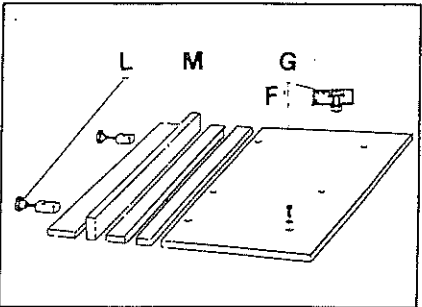

Fig. 5
Note: The worktable comprises 5 elements (Fig. 5): a large fixed portion (F) which attaches to the front of the base frame, a wooden fence (M) against which the material being worked is held and three movable strips of table which are used to adjust the position of the fence relative to the saw blade to ensure the different types/depth of cut can be carried out with safety.
- (i) Secure the front board (F) to the support brackets using the slotheaded bolts (G) and the relative washers and nuts making sure that the holes in the middle of the board locate over the central support flange in the base frame.